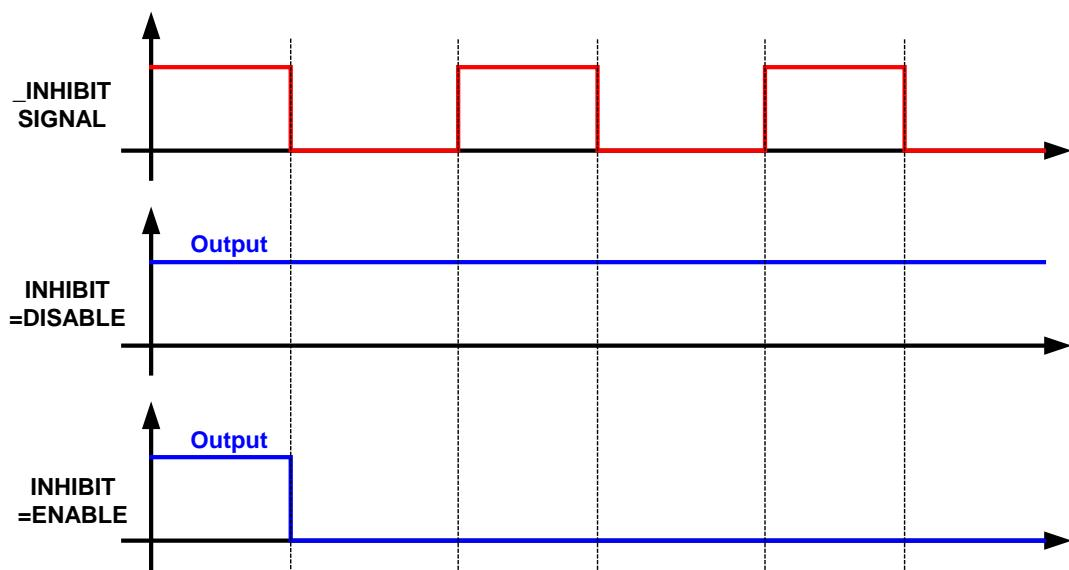

Figure 3-77
5. When the DC Power Supply is set to **OUTPUT = ON**, the REMOTE INHIBIT signal will control the output as shown in Figure 3-77.